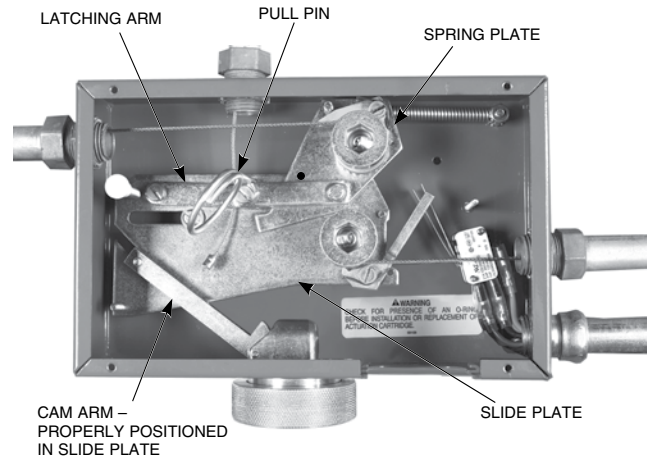

FIGURE 28
12. Insert pull pin into the hole in slide plate above the latching arm. This will lock the control head in set position, eliminating accidental actuation during the remaining installation procedure. See Figure 28.
4. Once the control head is set, remove the pull handle on the remote pull station to ensure the control head operates. If the control head operates normally, the control head can be reset. Insert the pull pin into the hole in the slide plate above the latching arm. See Figure 28. Replace the remote pull station handle and break rod.